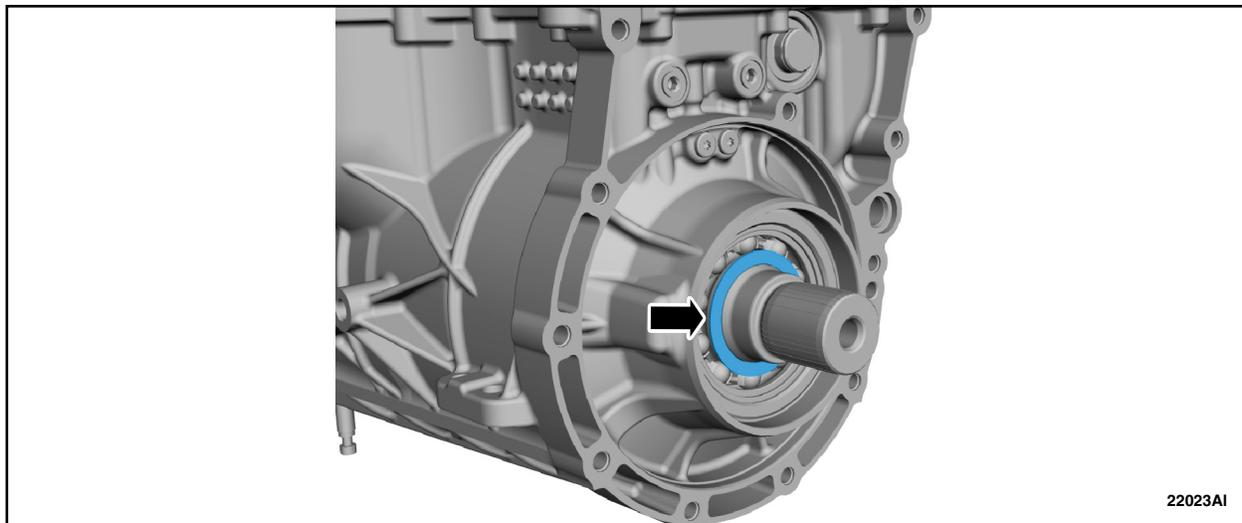

FIGURE 14
17. Remove the anti-ting washer. See Figure 14.